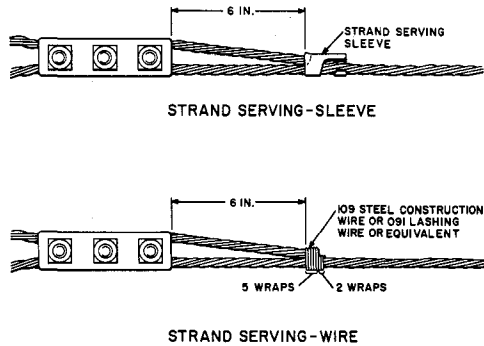

Fig. 21—Strand Serving Deadends
5.04 Provide a 6-inch tail at suspension strand deadends. Secure the tail with a strand serving sleeve or a wire serving as illustrated in Fig. 21.